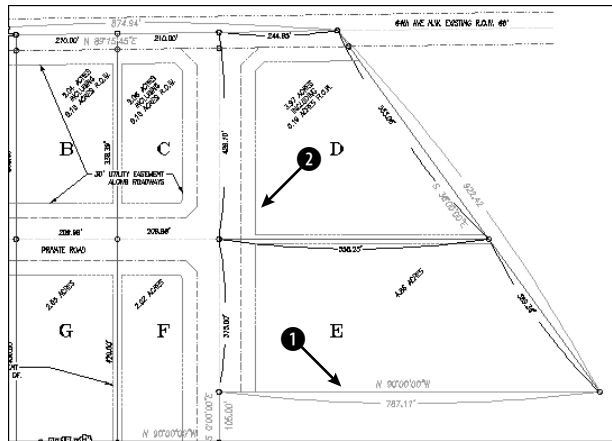

Figure 12-13: The site plan zoomed in to parcels D and E.
2. If you didn't do the previous exercise, use ZOOM Window to zoom in to the parcels labeled D and E, as shown in Figure 12-13.
4. Choose Draw ⇨ Point ⇨ Divide. At the Select object to divide: prompt, choose **1** in Figure 12-13. At the Enter the number of segments or [Block]: prompt, type `3 ↵`. The command places two points along the line, dividing it into three segments. (If you want, draw lines from the points perpendicular to the opposite side of the parcel to divide it into three parcels.)
5. Choose Draw ⇨ Point ⇨ Measure. At the Select object to measure: prompt, choose **2** in Figure 12-13. At the Specify length of segment or [Block]: prompt, type `120 ↵` (10 feet). The command places two points along the line.